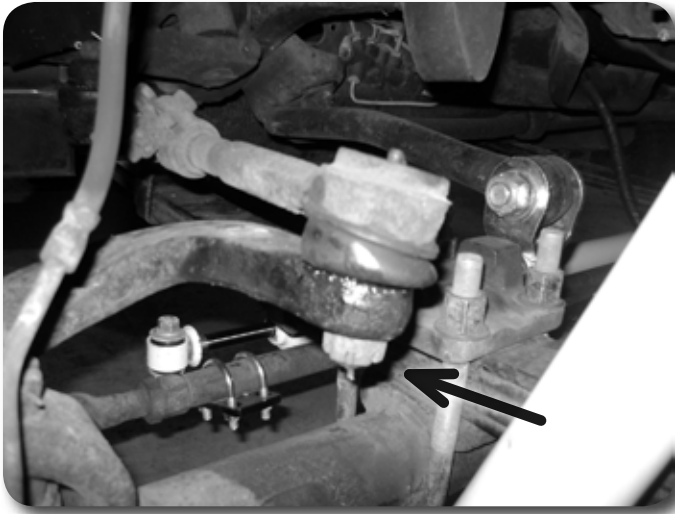

Figure 1
5. Remove the cotter pin and nut from the steering drag link at the steering arm on the driver's side of the axle. Strike the steering arm near the drag link end with a hammer to dislodge the tapered seat. Remove the drag link end from the steering arm. Save the drag link end nut. **Figure 1**